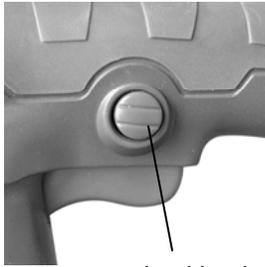

Fig.5
3. Switching on/off(Fig.5)
4. Locking button(Fig.5)